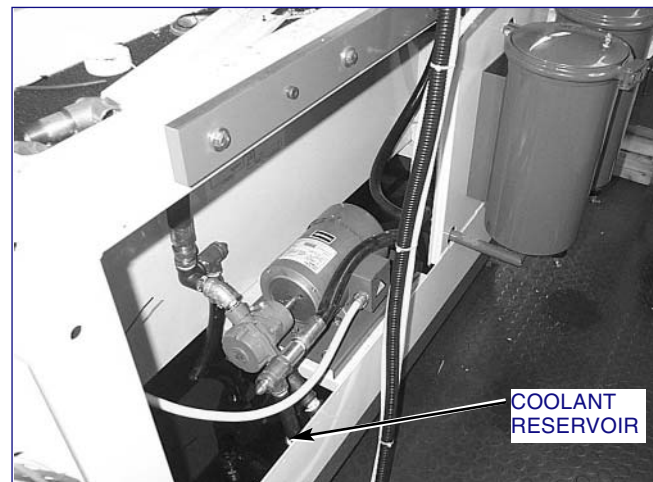

FIGURE 4-5, Coolant Reservoir
8. Tip Settlement Tray and allow oil to drain into Reservoir (see Figure 4-5).